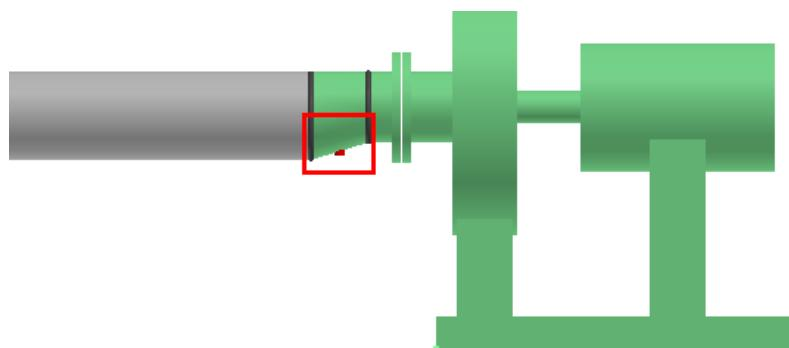

Figure 19: Tap Placed on the Eccentric Reducer
6. Click the **Finish** button to accept the placement of the tap. The tap placed on the eccentric reducer should resemble Figure 19.